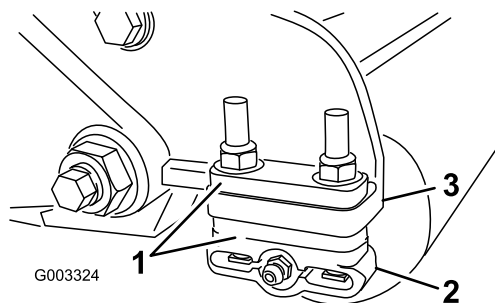

Figure 12
- Adjust the rear roller brackets (Figure 12) to the desired height-of-cut range by positioning the required amount of spacers below the sideplate-mounting flange (Figure 12) per the Height-of-Cut and Bedknife Selection Charts (page 11).